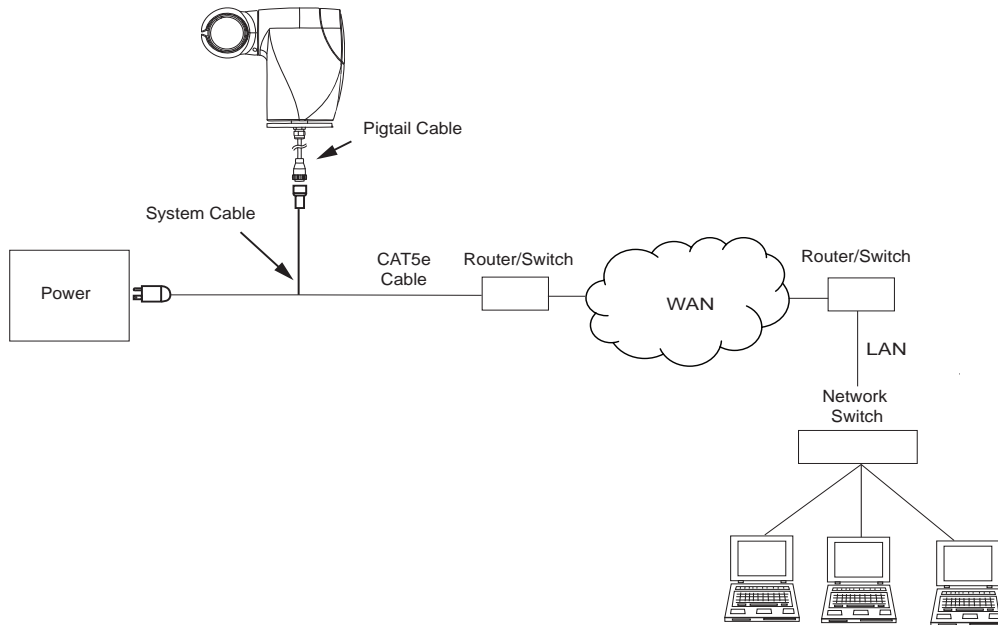

Figure 1. Interconnection Diagram, IP Output
- Figure 1 shows a typical set up interconnection diagram for the Camera using IP output